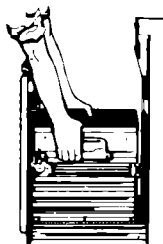

FIGURE 6
- b. Grasp side ridges of the drawer and lift drawer out. *See Figure 6.*